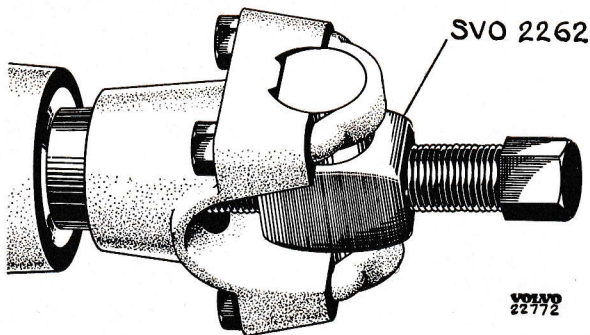
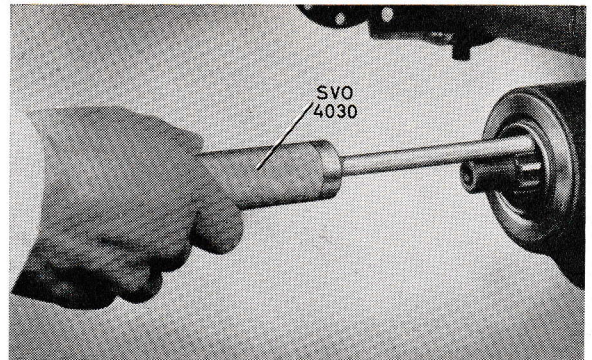

Fig. 5. Removing the flange.
Fig. 6. Removal of seal ring.
2. Remove the flange nut by using wrench SVO 2409 as rapport. Pull off the flange with tool SVO 2262. See Fig. 5. Remove the oil seal ring by using tool SVO 4030 as shown in Fig. 6.
1. Place the rear axle in fixture SVO 4110. Check that the cap (37) for the differential carrier is marked. If not, mark one side with a punch. Remove the cap bolts (44).
2. Remove the adjusting nuts (34) and the bearing rings. Lift out the differential and ring gear.
3. Loosen the nut (22) by using wrench SVO 2409 as rapport. Pull off the flange (21) with tool SVO 2262, Fig. 5. Press out the pinion (18).
4. Pull out the seal ring (20) with puller SVO 4030 from the forward end of the pinion housing, Fig. 6. Take out the paper gasket, the metal washer (19) and the roller bearing (25).